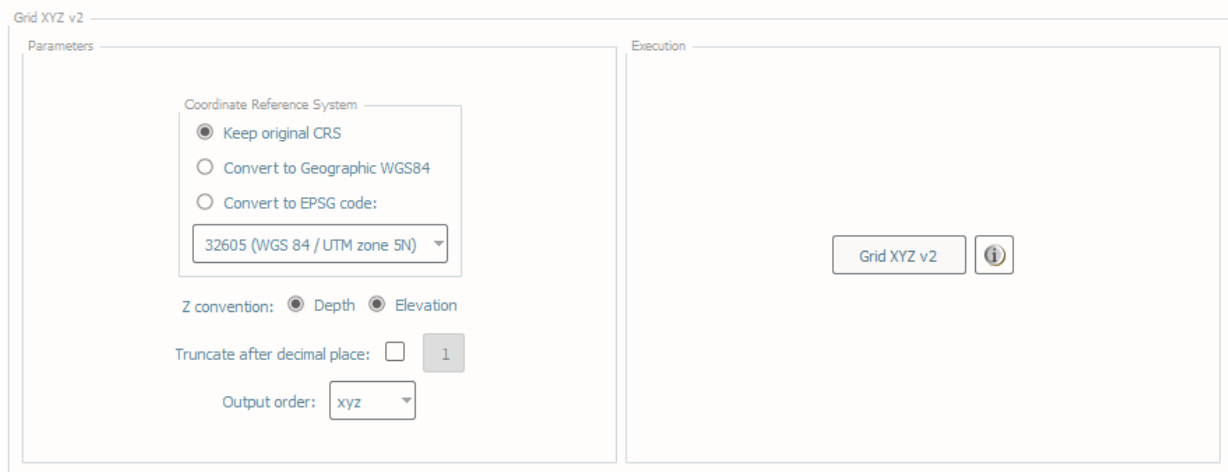

Fig. 2.36: Grid XYZ's interface.
- In **Execution** (Fig. 2.36), click **Grid XYZ v2**.